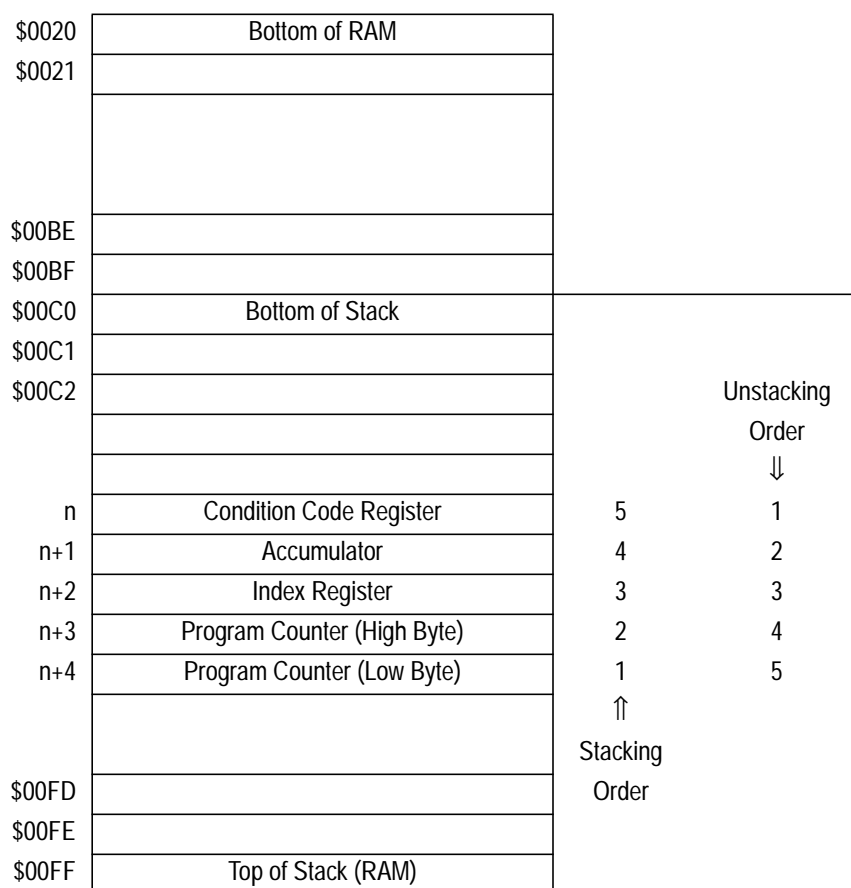
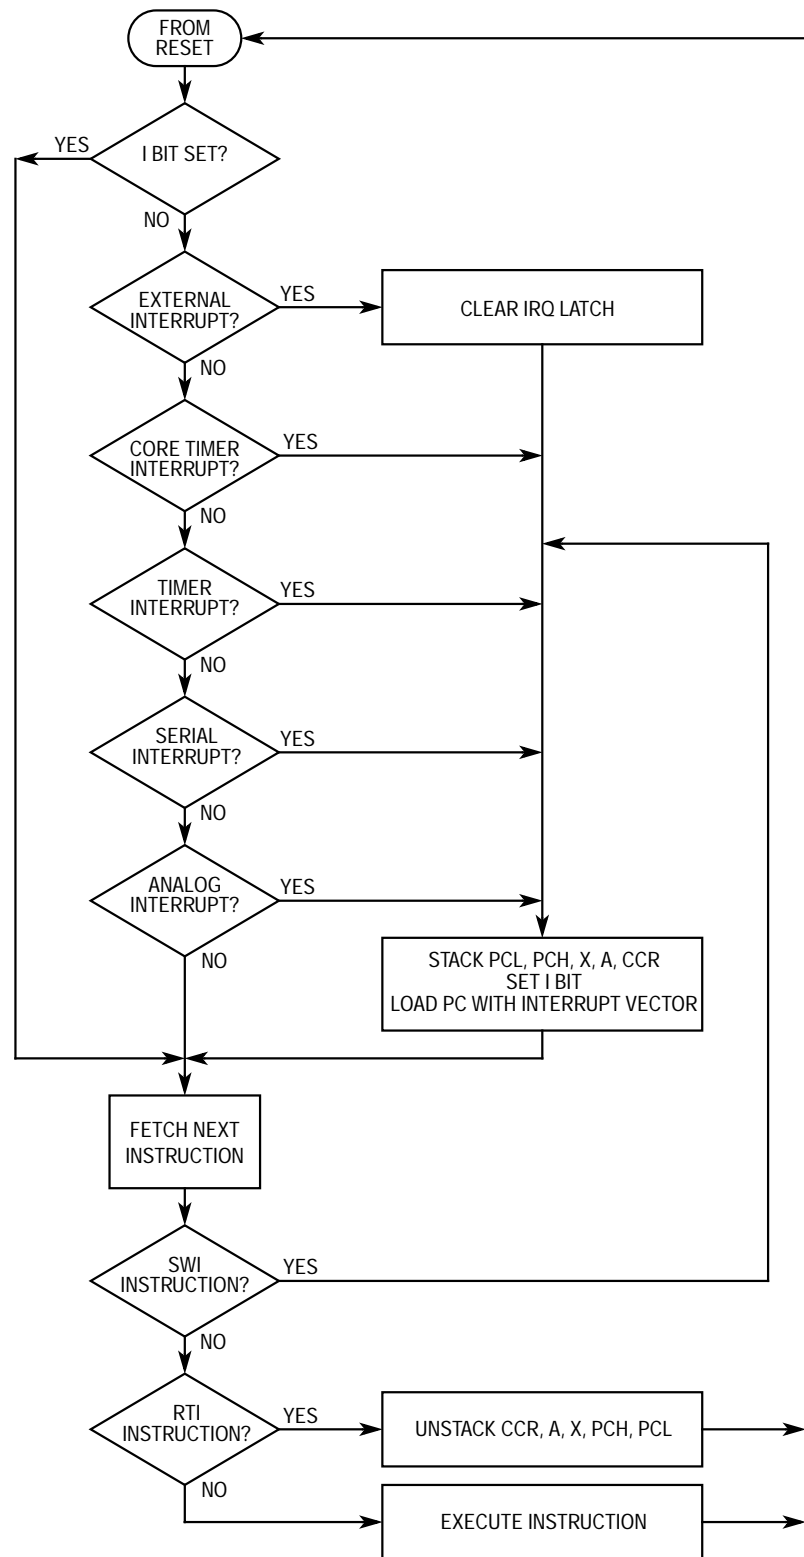

Figure 4-1. Interrupt Stacking Order
Figure 4-2. Interrupt Flowchart
- Stores the CPU registers on the stack in the order shown in **Figure 4-1**
The return-from-interrupt (RTI) instruction causes the CPU to recover its register contents from the stack as shown in **Figure 4-1**. The sequence of events caused by an interrupt is shown in the flowchart in **Figure 4-2**.